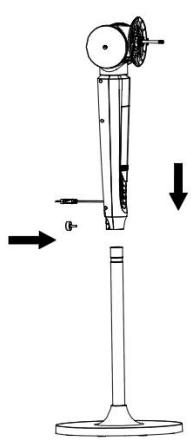

Figure 2
- B. Put the fan body onto the column tube and fix them with the adjustment screw (Figure2).